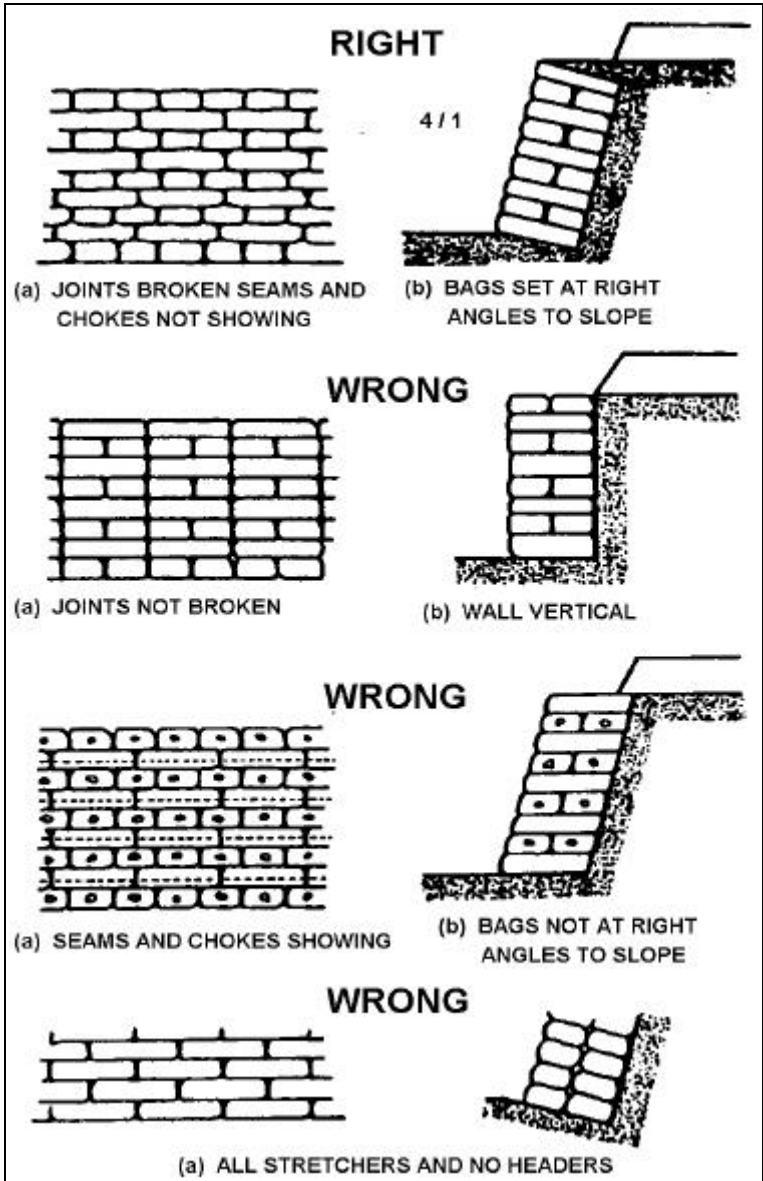
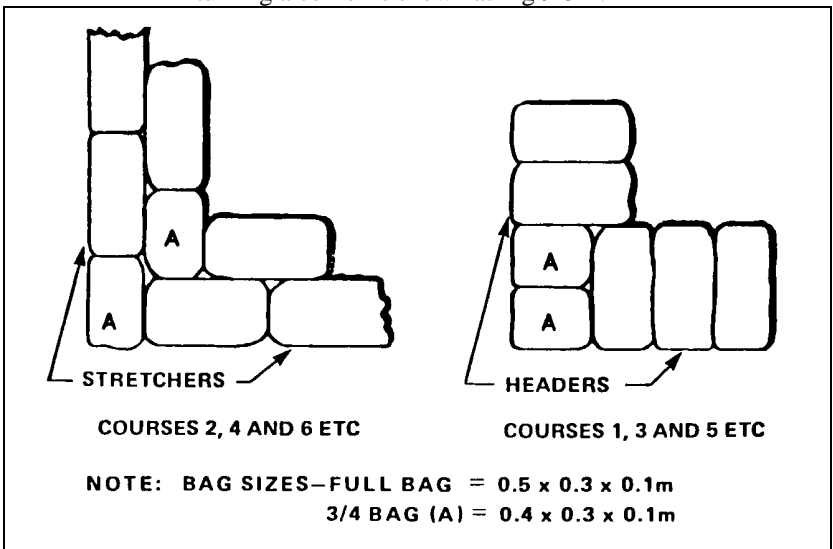

Fig 9-3-1 Examples of Correct Sandbag Wall Construction and Typical Mistakes
Fig 9-3-2 Turning a Corner
3. **Sandbag Walls.** A sandbag wall will not stand with a vertical face; the wall requires a slope of 4 to 1. Sandbag walls will last longer if they are filled with a mixture of cement and sand at a ratio of 10 parts sand to one part cement. Examples of sandbag walls are seen in Fig 9-3-1 and Fig 9-3-2. When building sandbag walls, remember the following points:
- g. **Turning a Corner.** Turning a corner involves partially filled sandbags (usually 3/4 filled). The method of turning a corner is shown at Fig 9-3-2.